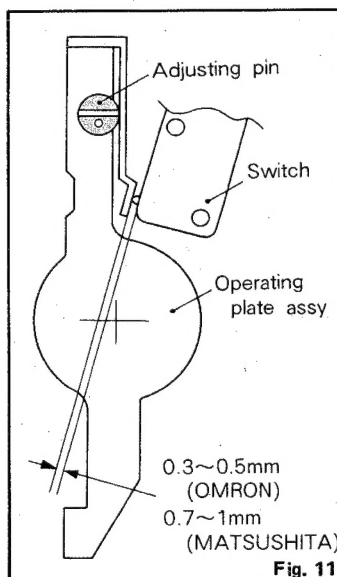

Fig. 11
- (b) Adjust gap between operating plate assy actuator and switch contact for dimension specified in Fig. 11. Note that two different types of micro-switches can be used during model assembly. Determine vendor type micro-switch and adjust to dimension specified.